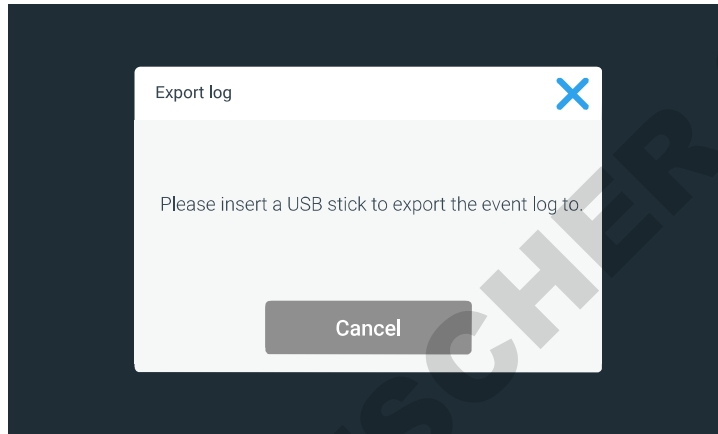

Figure 113 “Export log” Screen: Missing USB Drive Alert
3. If you have not inserted a USB drive yet, the pop-up window shown in Figure 113 appears, asking you to insert a USB drive to export the log to. The window will close automatically when you insert a valid USB drive, and the export process will start.